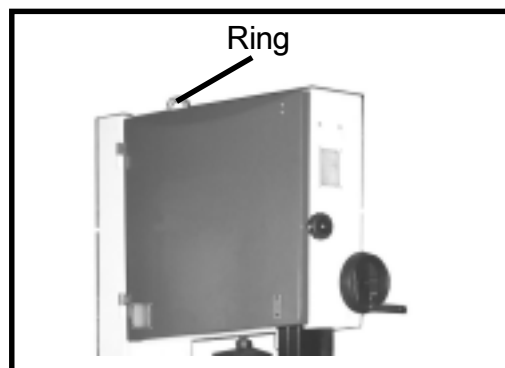

Fig.1
**WARNING!** Use a 2,000kgs wrecker hang up this bandsaw with Ring (Fig.1) to suitable place. To ensure sufficient upright stability of this bandsaw and safety, you need to bolt this bandsaw to floor on M10 screw.